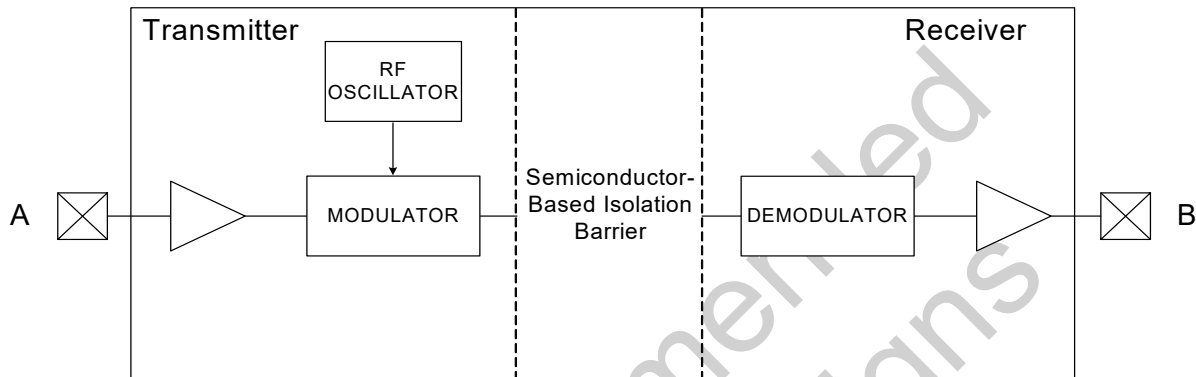

**Figure 2. (NB SOIC-8) Thermal Derating Curve, Dependence of Safety Limiting Values with Case Temperature per DIN EN 60747-5-2**
- Maximum value allowed in the event of a failure; also see the thermal derating curve in Figure 2.